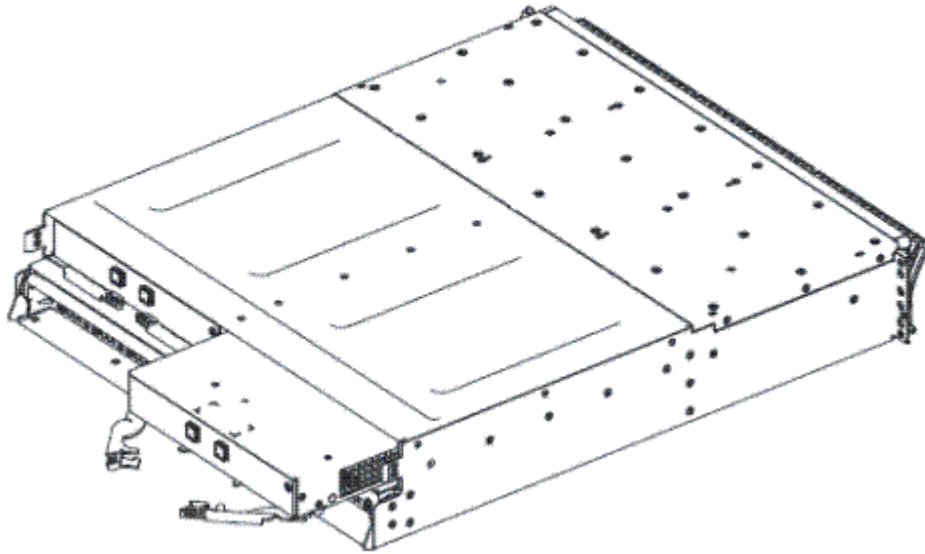

Figure 91. Removing and replacing the IBM Storage FlashSystem expansion canister
6. Open the two release levers as shown in Figure 91 on page 143.